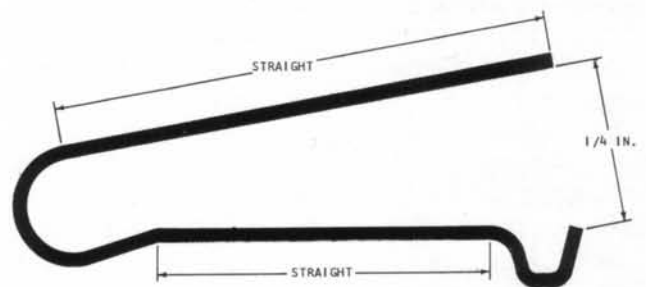

Figure 54. PM Relay Contact Wire
4. Check new contacts for correct configuration before installing (Figure 54).